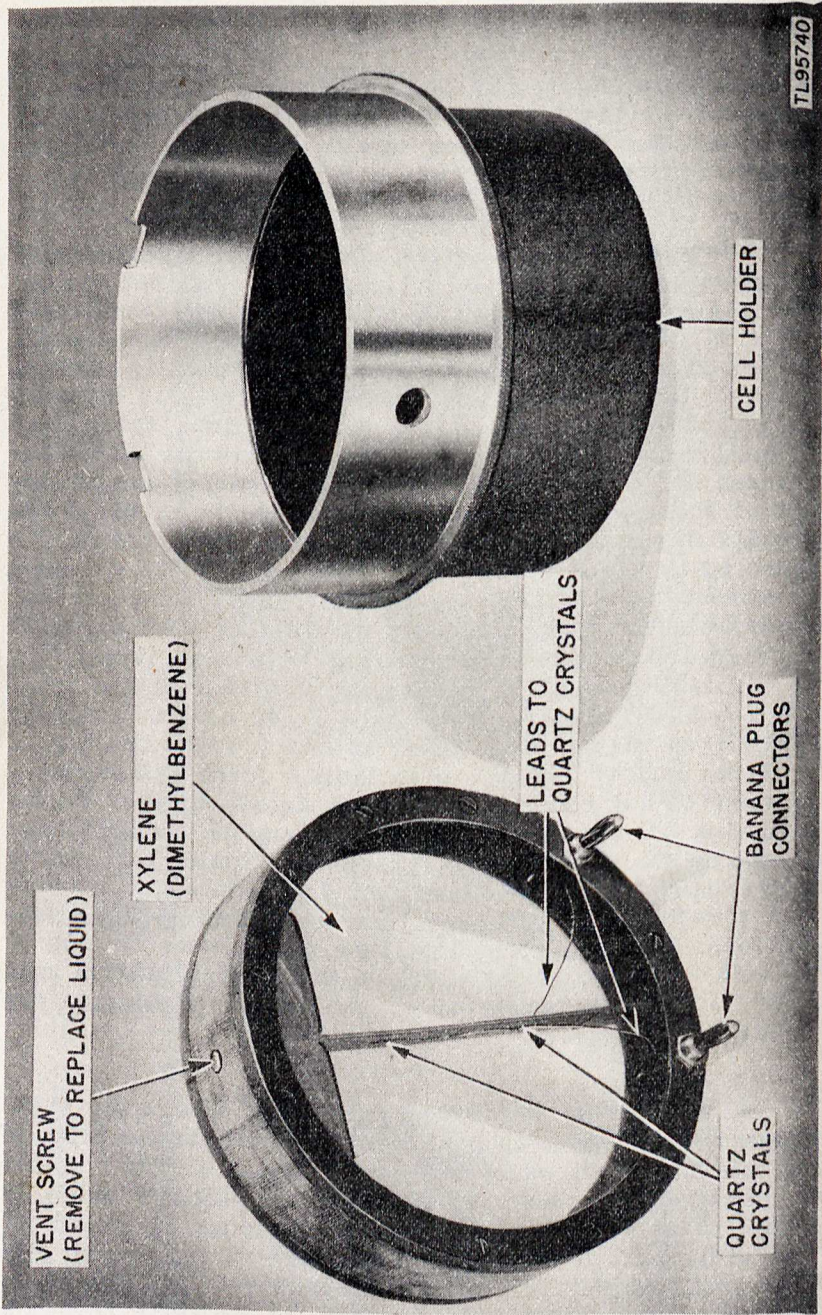

Figure 25. Modulating cell.
(1) *Physical Characteristics.* The modulating (supersonic) cell consists of a bakelite cylinder with glass end plates. These plates are assembled by means of screws to the cell body with Koroseal gaskets and bakelite retaining rings. Mounted centrally in the cell, and supported in grooves ground in the glass plates, are two X-cut quartz crystals $1\frac{1}{2}$ inch long, 1 inch wide, and $\frac{1}{32}$ inch thick, and two bakelite spacers (fig. 25). The crystals are chemically silvered and copper-plated over their entire length and most of their width on both sides. Opposite faces of the crystals are insulated from each other. The platings are connected by wires soldered to them so that the crystals are connected electrically in parallel. These wires are connected to banana-plug terminals by means of which the cell is connected to its power source in the optical unit. The terminals engage in connectors fitted into the front lens mount and are insulated from it by lucite grommets. The cell is filled to a level slightly above the top of the upper quartz crystal with Xylene (dimethylbenzene). The cell is not usually filled completely to provide for expansion of the liquid with increase in temperature. As long as the crystals are immersed in liquid, performance of the cell is not impaired. If the liquid drops below this level, the percentage loss of signal will be proportional to the percentage loss of liquid. The top of the cell is provided with a hole for filling, fitted with a vent screw. The capacity of the cell is approximately 7 fluid ounces.